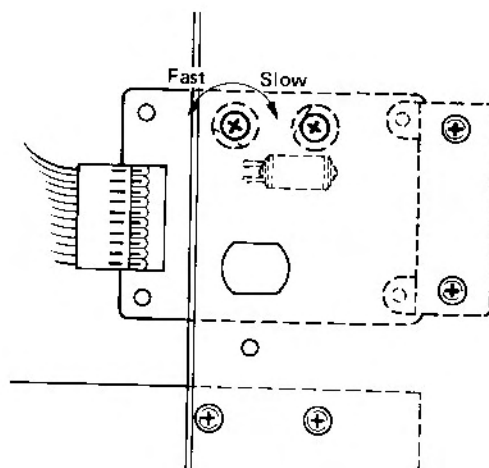

Fig. 2-8.
3. Play the middle of the test tape and adjust the HIGH speed trimmer resistor until the frequency counter indicates a reading of 3000 Hz. See Fig. 2-8. (CAUTION: Use an insulated screwdriver to prevent shorting).